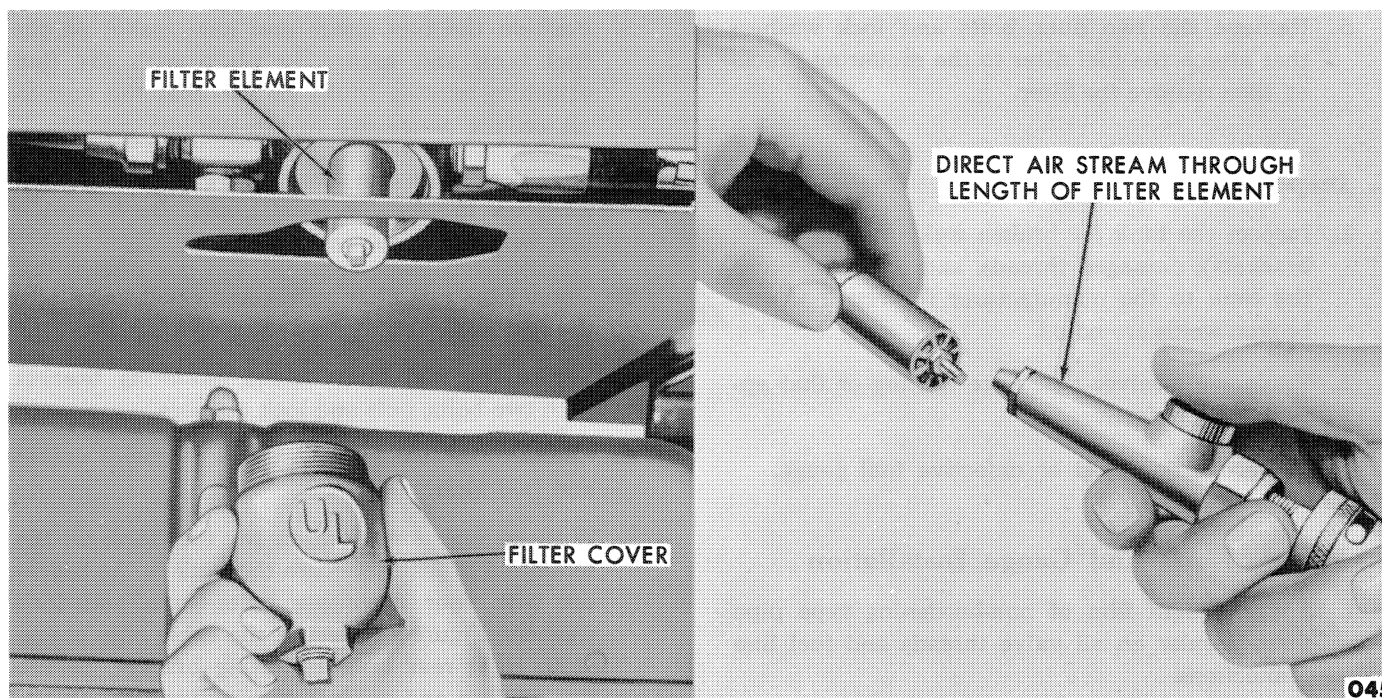

Figure 15—Servicing the Fuel Filter
NOTE: *If the element cannot be turned by hand, grasp the square shaft, Figure 15, with*
2. Flush the element with an air hose, making sure that the air stream is directed through the length of the element as shown in Figure 15.